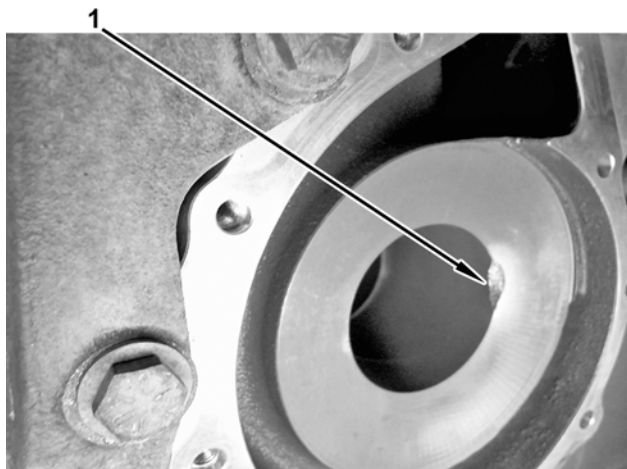

Figure 2 Mild Cavitation in Front Cover
6. Consider mild cavitation in aluminum Front Cover (water pump area) as normal wear. This is not an indication that cover needs to be replaced (Figure 2, item 1).